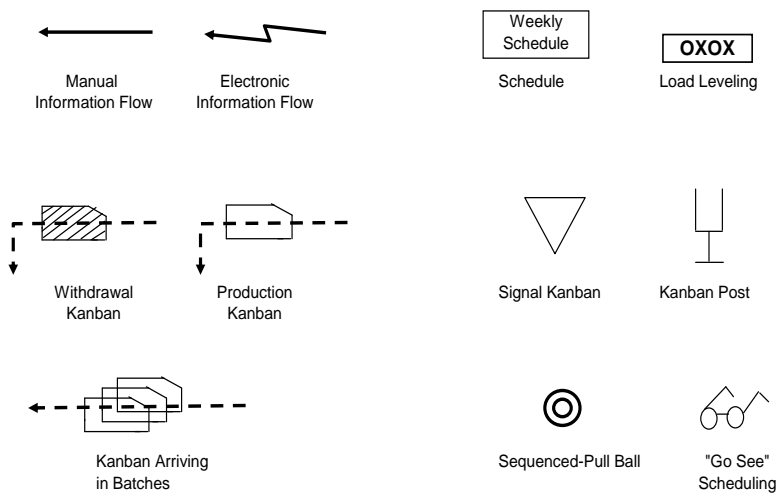
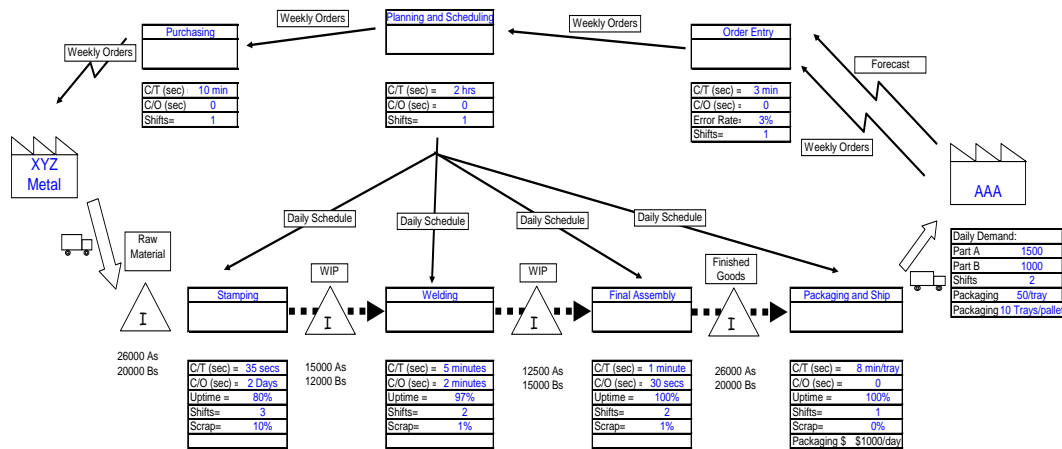

Figure 1 – Basic Value Stream Mapping Icons
Figure 2 – Current State Map Example
Typically the maps are hand drawn with multi-color Postits using the templates shown in Figure 1. The process of drawing a current state map begins by walking the process backwards and collecting data on the process steps using a form similar to the data box example in Figure 1. Walking the process backward changes your perspective on the process and allows the team to see the view of the product's receiving customer as it flows through the value stream. Once the walk is complete, then post the information on a wall using the postits (to draw the process) and the data collection sheets (for the data boxes). Figure 2 shows an example current state map.
- Document the actions required to achieve the change with a kaizen burst (Shown in Figure 1.)